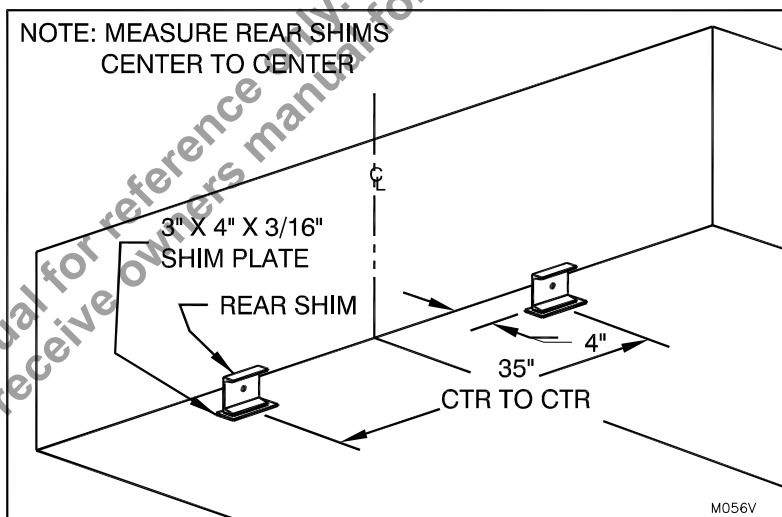

Figure 19: Rear Shim Location(4\"/>
- Place the two rear shims with welded-on shim plate at the rear of the pit, 35" center to center and 4" from the rear pit wall. ("Figure 19: Rear Shim Location(4" High Rear Shim Shown)" on page 17)